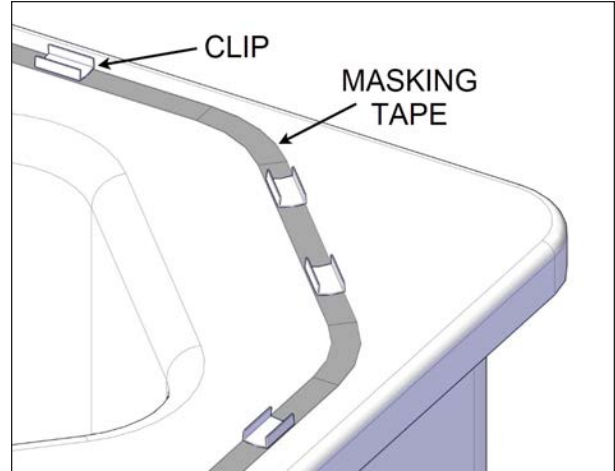
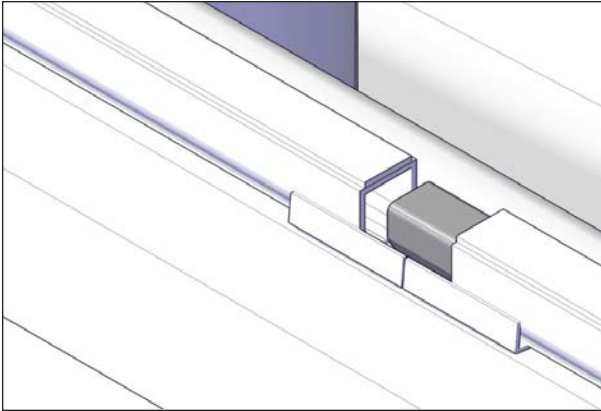
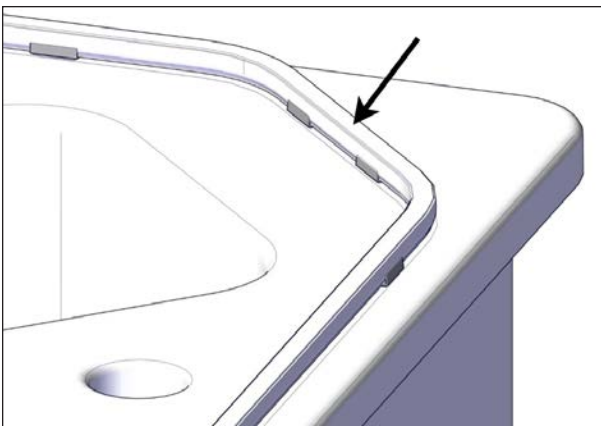

FIGURE 96: MASKING TAPE AND CLIPS
FIGURE 97: SEAL JOINT CONNECTOR
FIGURE 98: SEAL INSTALLATION
4. Apply the masking tape on the perimeter of the spa where the seal will be installed. The ideal location for the seal is closer to the swim spa interior edge on a flat surface, see Figure 96.
5. The number of seal clips is limited. Temporarily install the clips all around the spa to ensure the best distribution (do not stick yet). The minimum turn radius for the seal is 4" (10 cm), see Figure 96. Keep two clips for the seal joint connector as shown in Figure 97. Once the distribution is done, stick the clips in place (on the tape if applied).
6. The seal joint starts on the opposite side from the spa entrance. Install two clips where the seal joint connector will be located, see Figure 97.
- Start installing the seal joint with the adhesive layer facing up towards the cover, see Figure 97 and Figure 98.
- Insert the supplied seal connector in both ends of the seal. The use of masking tape to hold the two ends is recommended, see Figure 97.